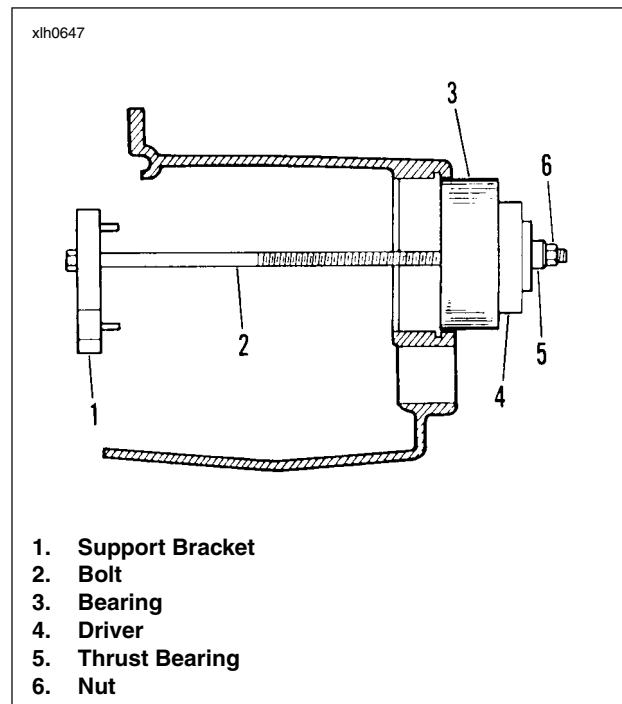

Figure 6-55. Installing Mainshaft Ball Bearing
2. See Figure 6-55. Insert bolt (2) through support bracket (1), new bearing (3), driver (4) and thrust bearing (5). Thread nut (6) on end of bolt. Tighten nut carefully until bearing is started in bore squarely. Tighten nut (6) until bearing is seated against shoulder in bore.